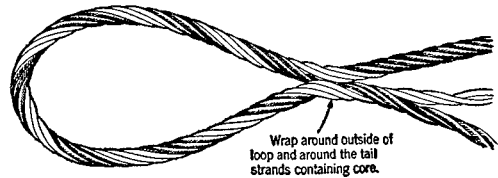

Fig. 6
**5.06** When reforming coreless-type rope, the single strand is passed around the crotch of the eye and formed into the tail section containing the two strands as shown in Fig. 6.